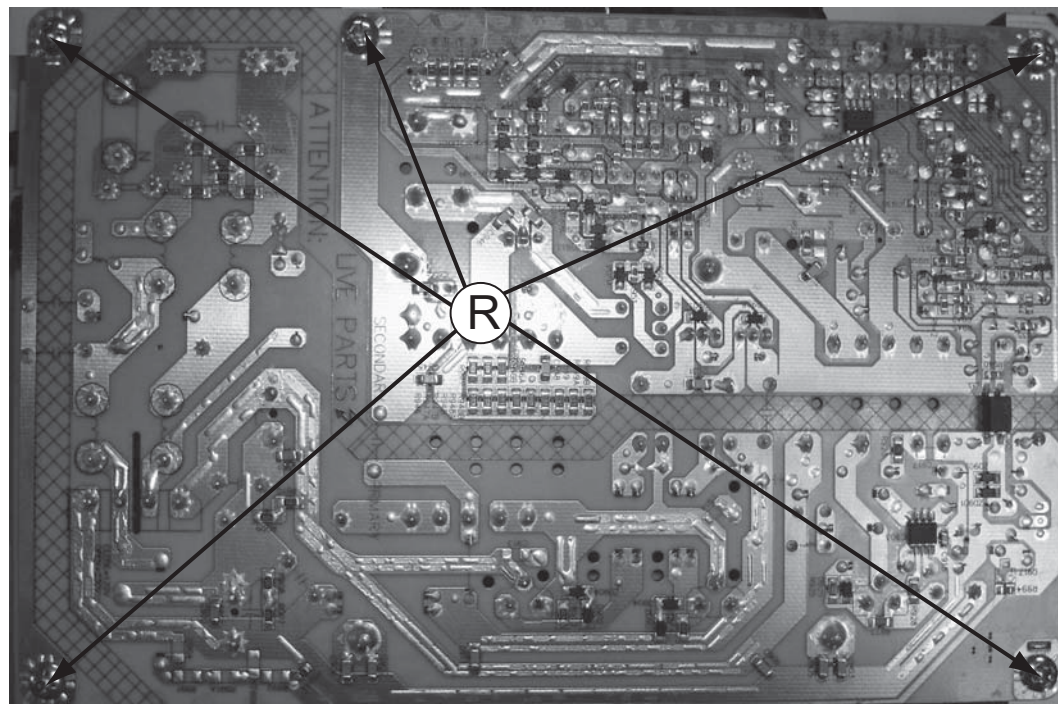

Figure 18
1) Loosen 5 screws "R" on the top of power board as shown in figure 18.